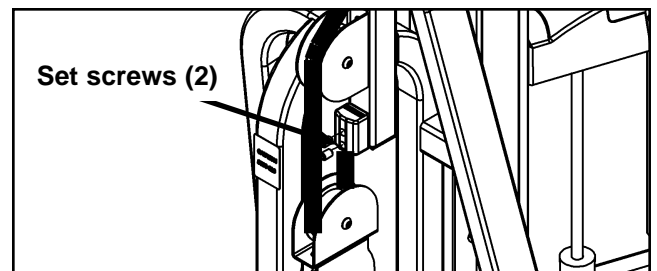

Figure 1
- B. Loosen the two set screws securing the weight stack belt and remove this end. See Figure 1.